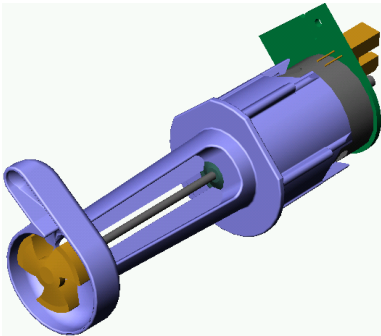

Fig. 4 Pump motor + rotor
- After a selection key is pressed, the pump motor (fig.4 ) is driven for a certain time, depending on the programmed amount, with a certain speed (number of revolutions).